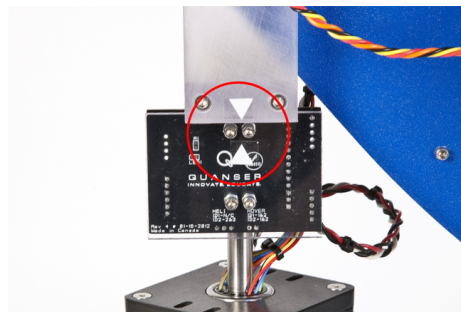

Figure 3.2: Align the 2 DOF Helicopter pedestal and body
2. Using the supplied 8-32 brass thumb screws, attach the 2 DOF Helicopter body on the pedestal. Make sure the two alignment arrows are facing the same side (shown in Figure 3.2).